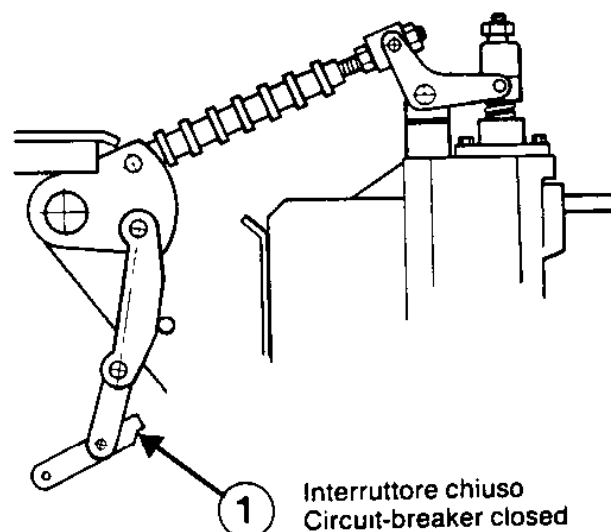

Fig. 5 Operation of the operating mechanism
During the closing operation the opening springs (1) are charged: pressure on the push-button (15a) (marked with the letter "O") or excitement of the shunt opening release (if provided) or deenergization of the undervoltage release (if provided) or operation of the special transmissions (with draw-out circuit-breakers) causes release of lock (1) (see fig. 5) and the consequent return of the circuit-breaker to the open position. After this the lock (1) returns to its initial position.